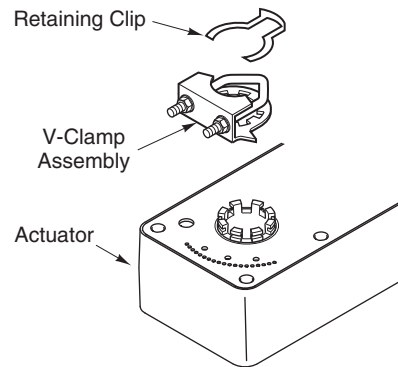

Figure-4 Installation of Clamp for Jackshafts.
2. Place the AM-687 universal clamp in the same orientation as the universal clamp previously installed on the actuator. Secure it in place using the retaining clip. See Figure-4.